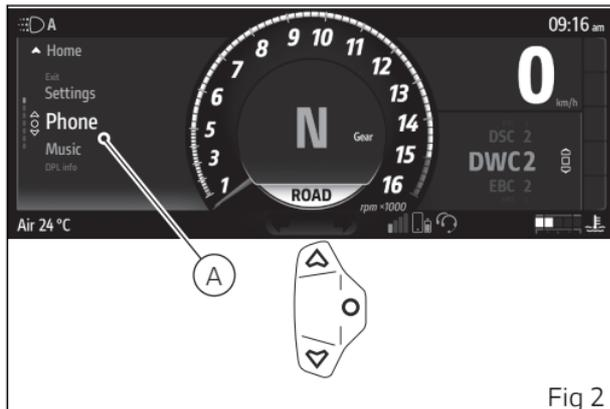

Fig 2
When a call is in progress a window is shown with the name or number of the phone contact as well as the item "End call" (C). To end the call, press button . During the call, it is possible to exit the call display to access other menus on the main page by holding down the button . The blue phone icon (D) is also activated to indicate that the call is in progress. To return to the call in progress window, select "Phone" (A, Fig 2) from the functions menu, and press .